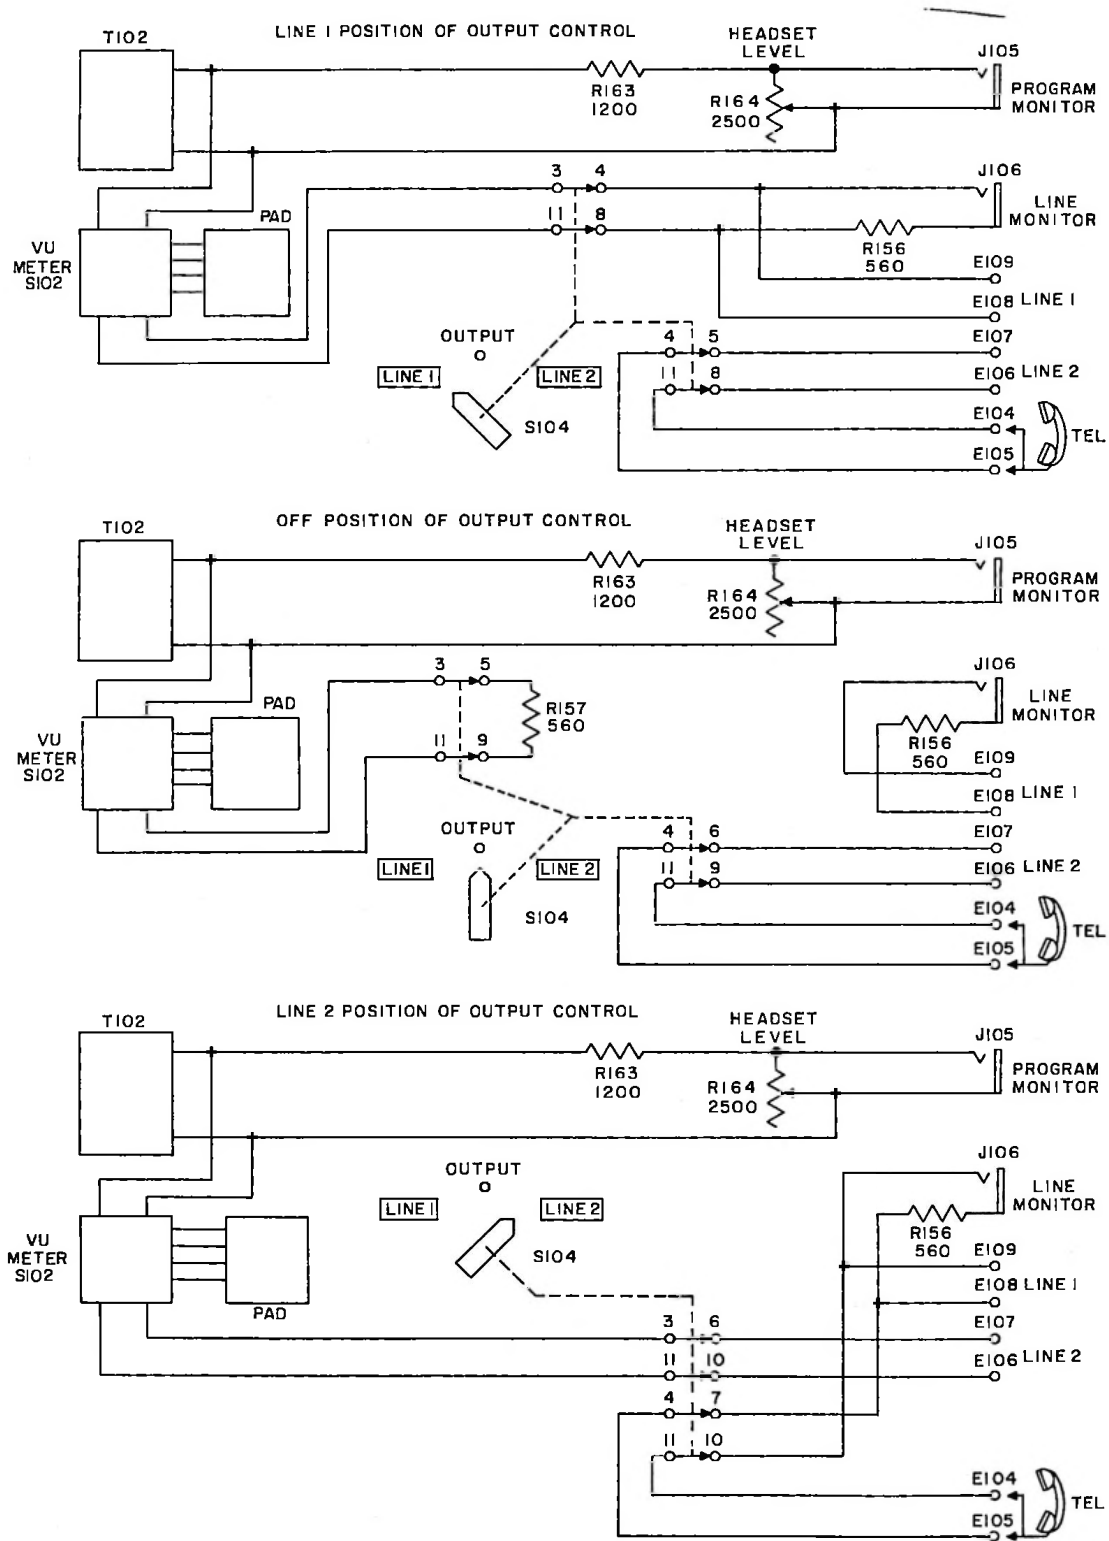

Figure 4-1. Output Circuits, Simplified Schematic
3.3.6 OUTPUT SWITCH. (Refer to figure 4-1.) The OUTPUT selector switch in LINE 1 position connects the audio to LINE 1 and connects the TEL (telephone) circuit to LINE 2. In the LINE 2 position, the OUTPUT selector switch connects the audio to LINE 2 and connects the TEL (telephone) circuit to LINE 1. In the 0 position, a load resistor is connected across the program audio and the audio is disconnected from both lines, but the telephone circuit is connected to LINE 2.
OUTPUT selector switch S104 in LINE 1 position (refer to figure 4-1), connects the audio to LINE 1